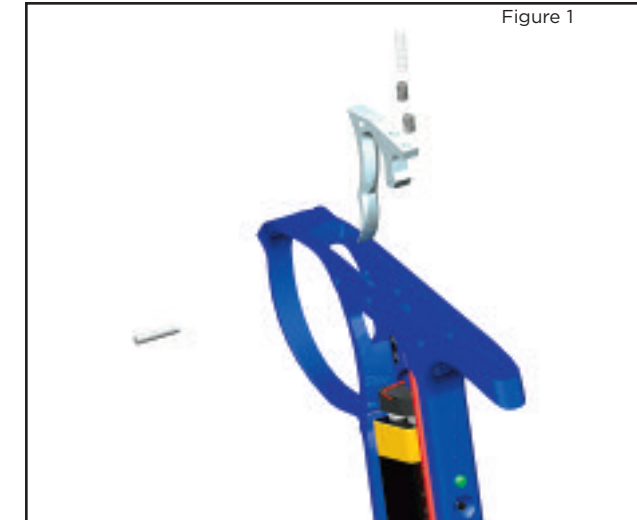

Figure 1
- The two adjustment screws are located at the top of the trigger in the grip frame (see figure 1).